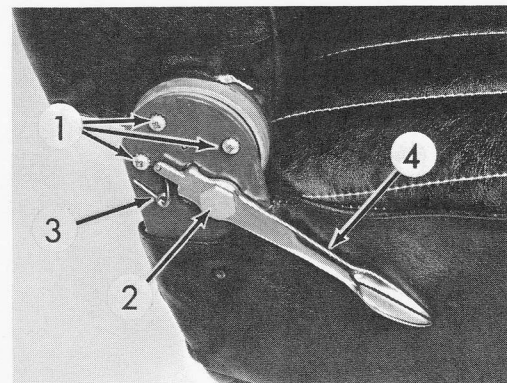

Fig. 2
5. Reassemble control mechanism as outlined in the shop manual. Be sure to use the correct control lever spring and to install the spring (3) as shown in Figure 2.